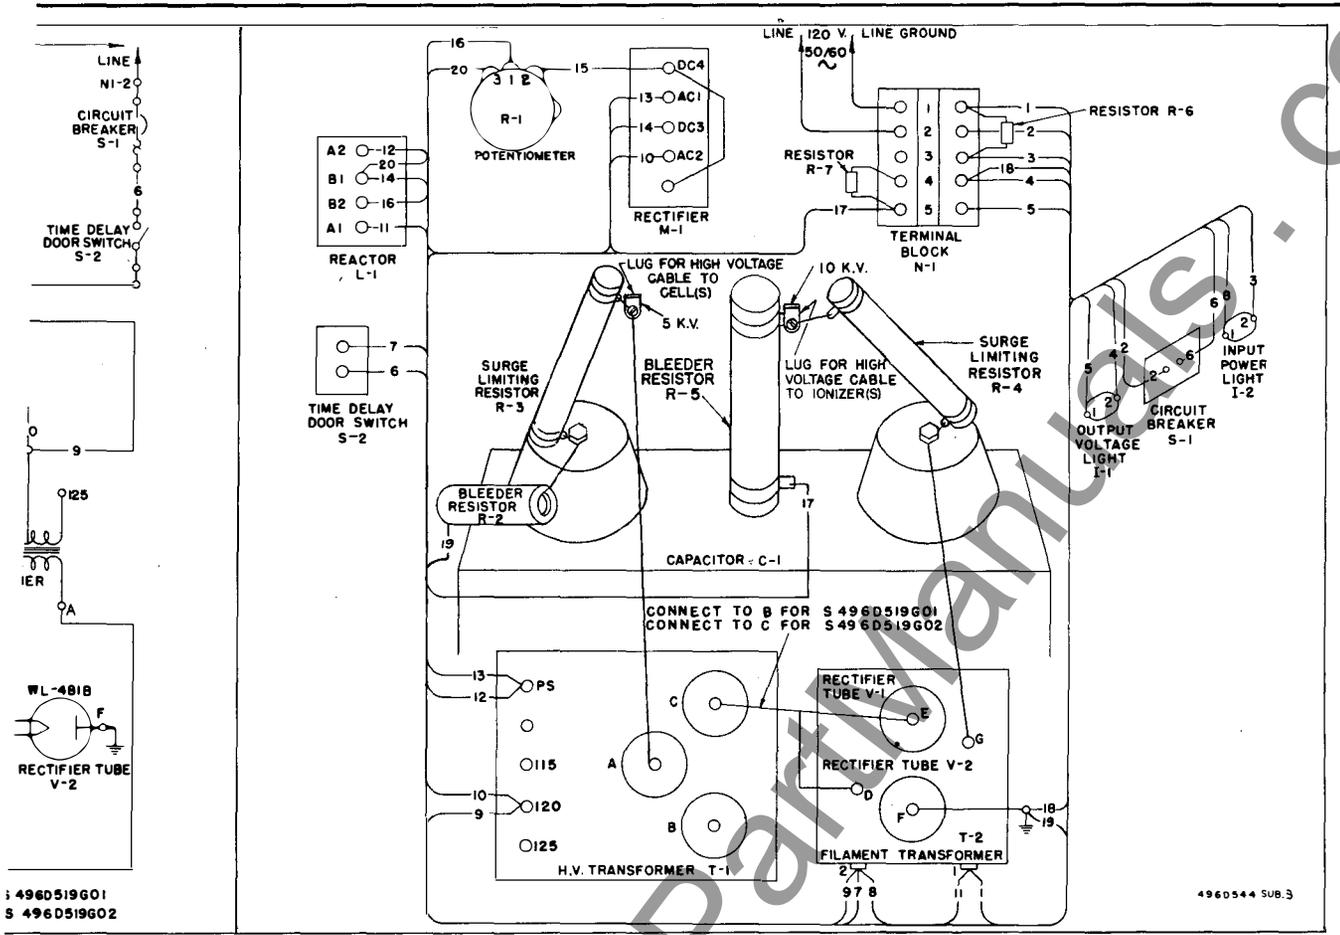

Figure 4 Schematic and Detailed Wiring Diagrams
**PRECIPITRON Operating Voltages** are 10,000 volts dc for ionizers, 5000 volts dc for collector cells. These voltages are obtained by stepping up low voltage ac, rectifying it and charging a two-section capacitor in what is known as a voltage doubling circuit. The operation is as follows: - During one half of the ac cycle, 5000 volts from the high voltage transformer T-1 (see Fig. 4) is rectified by tube V-2 to charge one section of capacitor C-1. Tube V-1 is not conducting during this half cycle. During the other half of the ac cycle, the 5000 volts from the high voltage transformer is rectified by tube V-1, charging the second section of capacitor C-1. Tube V-2 is not conducting during this half cycle. Capacitor C-1 stores the energy alternately delivered to each of the two sections, which are connected in series. Since the charges are additive, both sections to ground gives 10,000 volt (5000-5000): - first section to ground gives 5000 volts. Surge limiting resistors R-4 and R-3 normally have no effect on these voltages but when arc-over occurs in the PRECIPITRON these resistors protect the capacitor.
Type RC-5 Power Pack may be field converted into Type RC-22 by changing the high voltage tap connection, (see Fig. 4) and changing the circuit breaker heater (see Maintenance, Step 10).
**High Voltage Connections.** (See "CAUTION" on Page 4.) Connect the high voltage cables to the lugs provided at the top of the surge limiting resistors. Solder lugs to cables. The terminal marked 10 KV is for the PRECIPITRON ionizer cable, the 5 KV terminal for the cell cable. (See Fig. 4.)
**Low Voltage Connections.** After checking all high voltage and grounding connections, connect the incoming low voltage supply to terminals 1 & 2. (See Fig. 4.) Note: Refer to PRECIPITRON unit wiring diagram for overall installation connections.